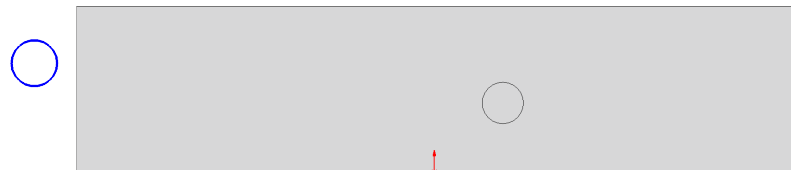

Fig. 50
Step 3. Click **Circle**  (S) on the Sketch toolbar.
Step 4. Sketch circle, **Fig. 50**.